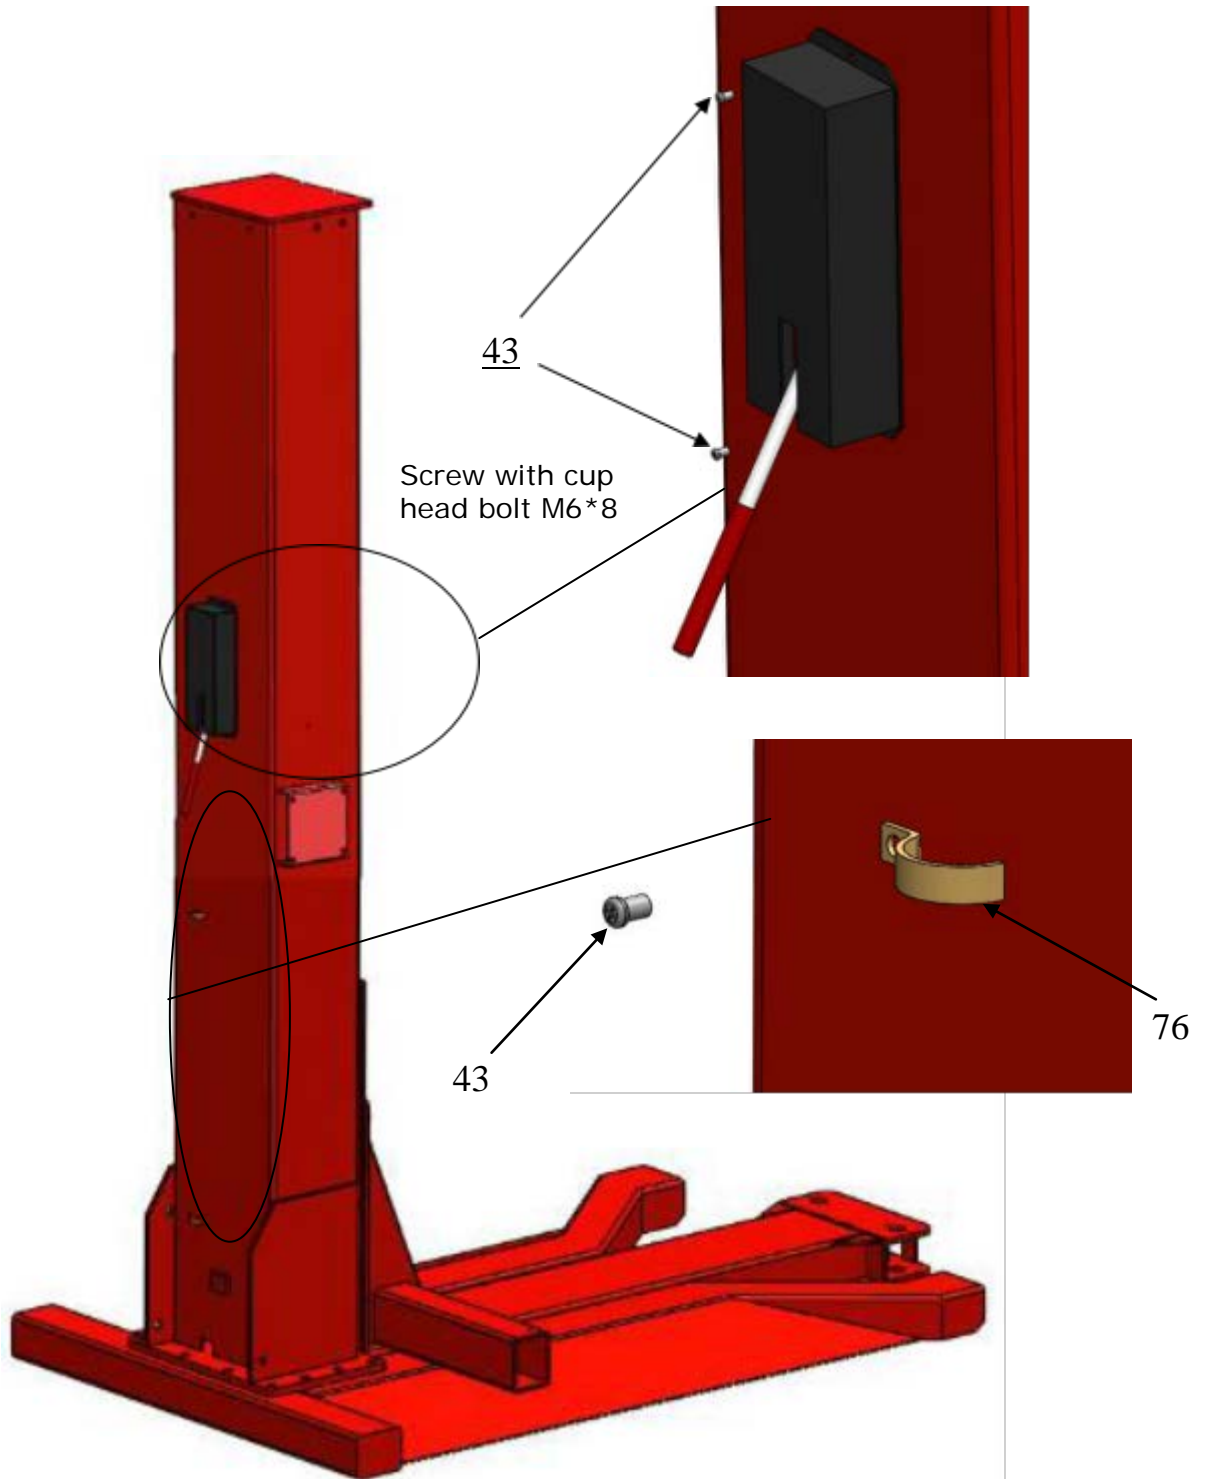

Fig.13
E. Install cover of the safety device & retainer (See Fig.13)